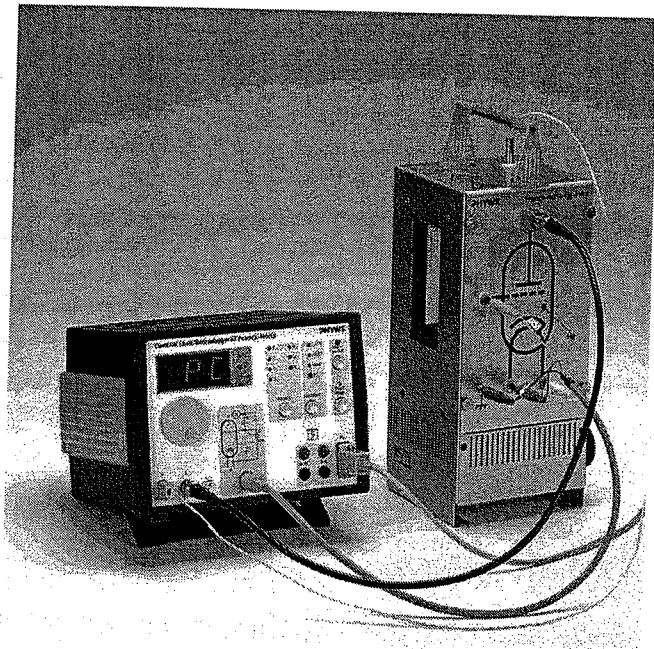

Fig. 2 Franck-Hertz experiment with Hg-Tube and oven
3.1.1 If Franck-Hertz Control Unit 09105.99 is used (see Fig. 2) then switch on the control knob fitted to the side of the oven to its maximum. The oven temperature is then controlled automatically by control unit.